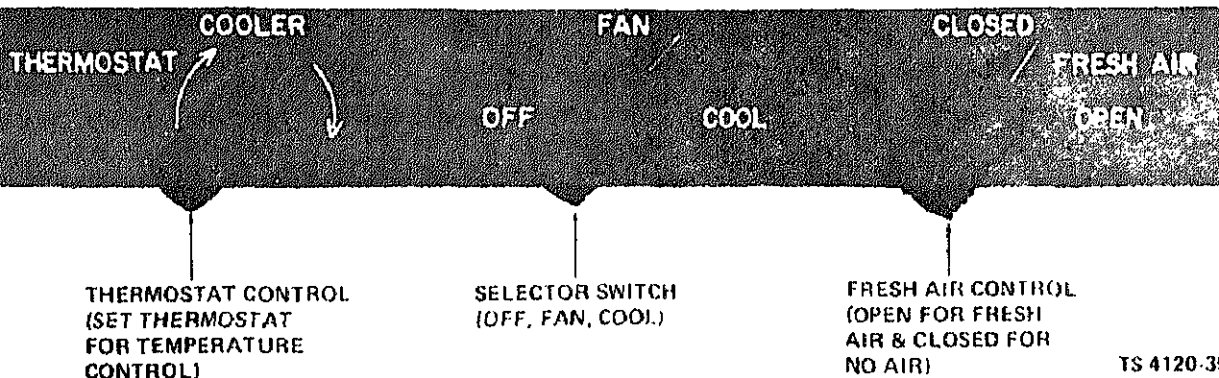

Figure 2-1. Controls and Instruments.
proper operation of the air conditioner. The location and the function of the controls and instruments are illustrated in figure 2-1.
(1) Set THERMOSTAT (fig. 2-1) to desired temperature.